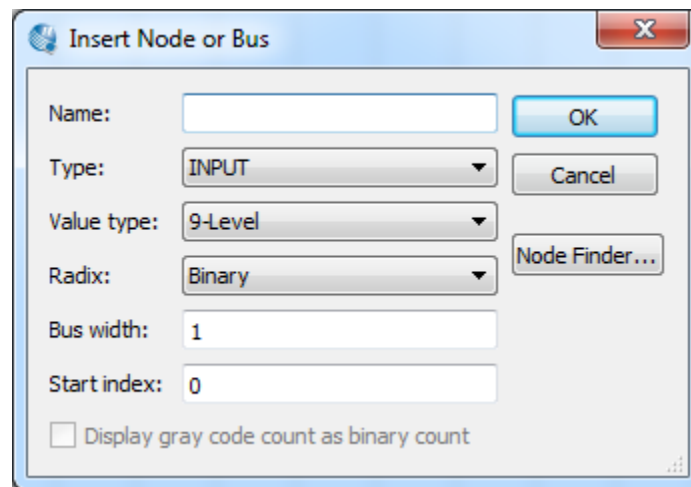
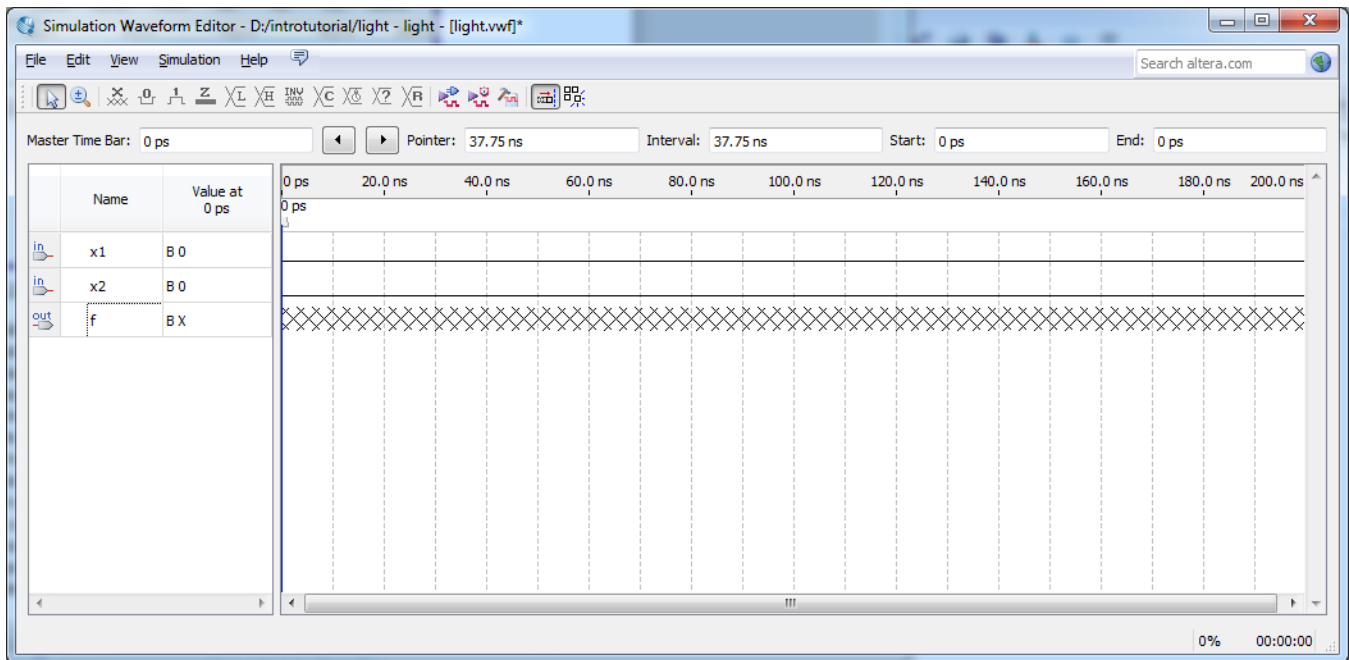

Figure 20: The Insert Node or Bus dialogue
Figure 22: The nodes needed for simulation
- iii) Next, we want to include the input and output nodes of the circuit to be simulated. Click **Edit > Insert > Insert Node or Bus** to open the window in Figure 20. It is possible to type the name of a signal (pin) into the Name box, but it is easier to click on the button labeled **Node Finder** to open the window in Figure 21. The Node Finder utility has a filter used to indicate what types of nodes are to be found. Since we are interested in input and output pins, set the filter to **Pins: all**. Click the **List** button to find the input and output nodes as indicated on the left side of the figure. Click on the **x1** signal in the Nodes Found box in Figure 21, and then click the **>** sign to add it to the Selected Nodes box on the right side of the figure. Do
the same for  $x_2$  and  $f$ . Click OK to close the Node Finder window, and then click OK in the window of Figure 20. This leaves a fully displayed Waveform Editor window, as shown in Figure 22. If you did not select the nodes in the same order as displayed in Figure 22, it is possible to rearrange them. To move a waveform up or down in the Waveform Editor window, click on the node name (in the Name column) and release the mouse button. The waveform is now highlighted to show the selection. Click again on the waveform and drag it up or down in the Waveform Editor.